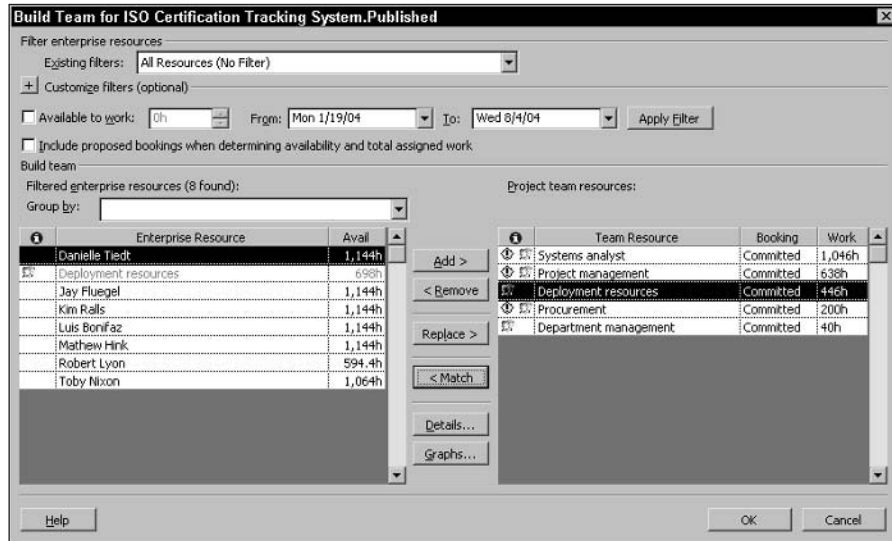

Figure 20-19: Replace a generic resource in your project with a real resource from the filtered Enterprise Resource Pool list.
- Click the Match button. Project displays, in the left side of the dialog box, those resources that match the selected generic resource (see Figure 20-19).